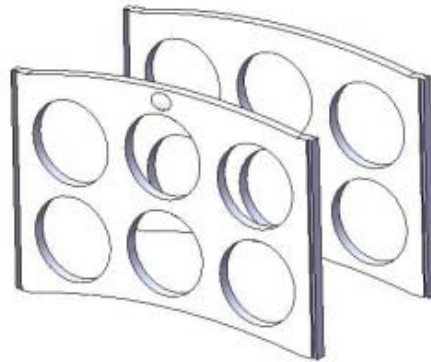

Figure 1
1. Locate the front and back panels. Arrange them parallel to one another (**Figure 1**).